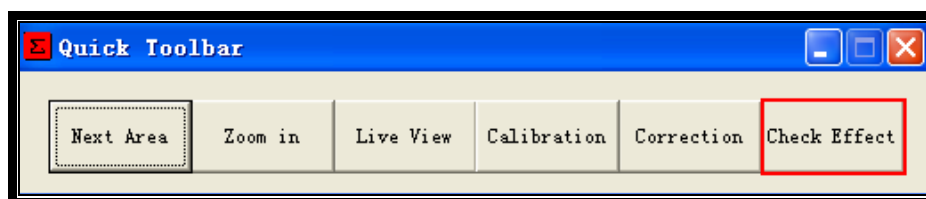
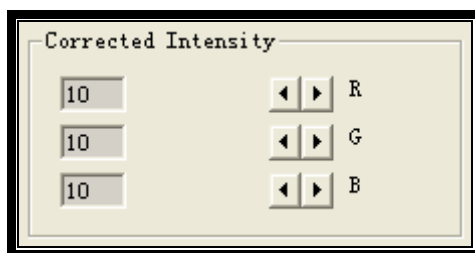
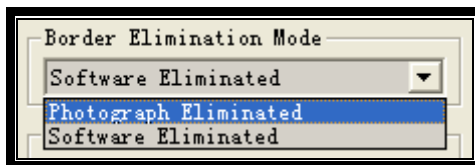

Fig.3-25
Fig.3-31
Fig.3-33
Step23: After correction for all cabinet, click the “Check Effect” button on Quick Toolbar, as shown in fig.3-25, then a picture which is imitated correction effect will pop up.
Step30: Observe the screen, if you feel that the correction intensity is not enough or excessive, in the frame of **Corrected Intensity**, you can click the “▶” button or “◀” button to increase or reduce the corrected intensity, as shown in fig.3-31. Then click the “Check Effect” button on Quick Toolbar to check the optimization effect, as shown in fig.3-25. Repeat this step until you
Step32: Click the “Check Effect” button on Quick Toolbar, as shown in fig.3-25. Observe the screen to check if the border is eliminated. If the border effect doesn’t improve, Click the drop-down option in the frame of **Corrected Intensity** and choose “Photo Eliminated” option, as shown in fig.3-33.